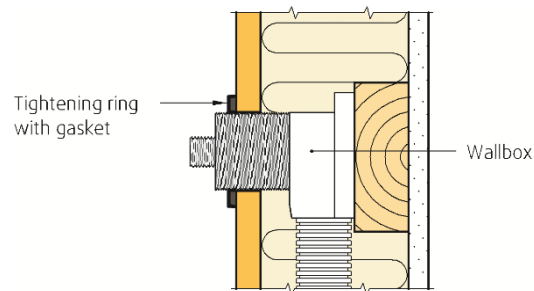

Figure 4: Installation of wall box with tightening ring and gasket
- The tightening ring and gasket delivered with wall box is installed as illustrated in Figure 4.